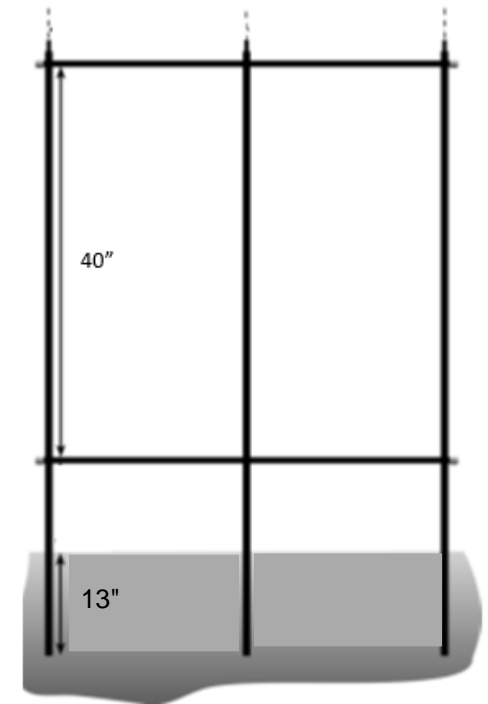

Figure 2: Positioning of the Cross Poles on the Uprights
- If you have chosen the lattice option you will need to position the Cross Poles, on the uprights, approximately 40" away from one another, as illustrated in Figure 2, to accommodate the lattice infill.